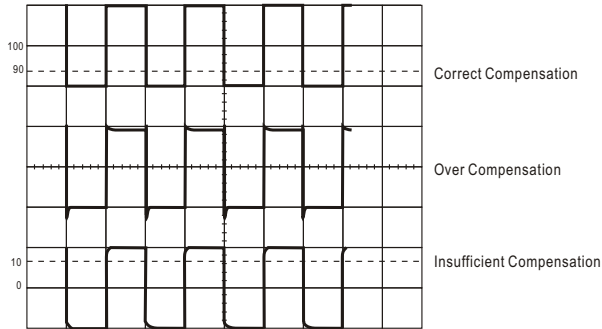

Fig.20 Probe Compensation Adjustment
5. Adjust compensation trimmer on probe for optimum square wave (minimum overshoot, rounding off, and tilt). Refer to Fig.20: